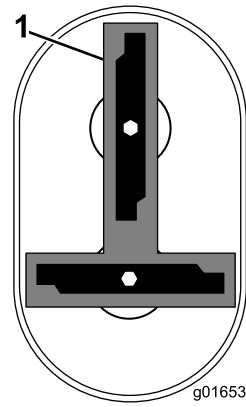

Figure 6
**Note:** The blades should be perpendicular, forming an inverted “T” as shown in Figure 6.